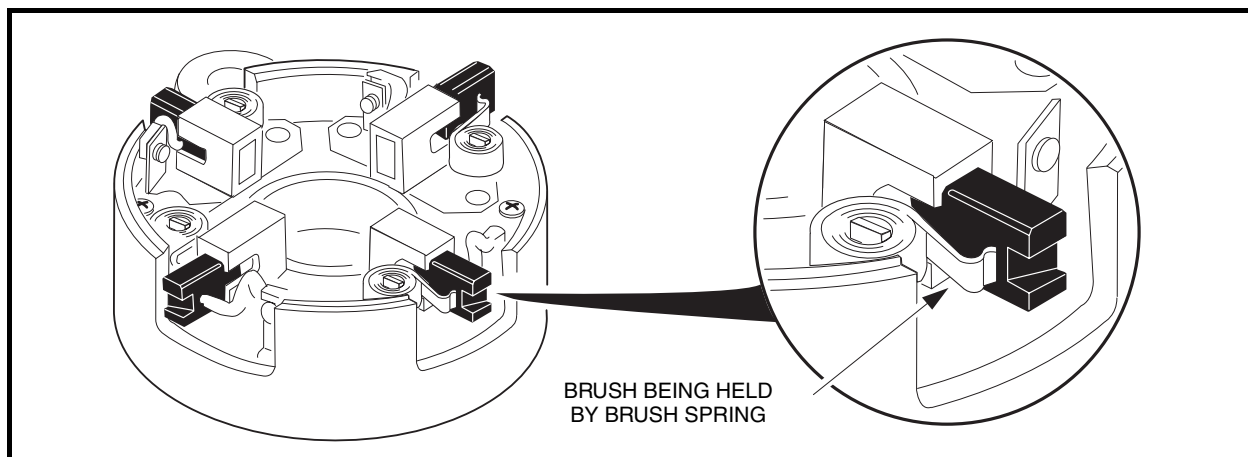

Figure 12-6 Pull Brushes Away From Center of the Commutator End Cover
NOTE: Brushes must be removed to avoid damage from commutator removal. Lift the brush springs out of the notches in the brushes and pull the brushes back from the center of the commutator end cover. The springs will help prevent them from sliding back towards the center (Figure 12-6, Page 12-4).
2. Install the commutator. Lift the brush springs out of the notches in the brushes and pull the brushes back from the center of the commutator end cover to avoid interference. The springs will rest on the sides of the brushes and help prevent them from sliding to the center (**Figure 12-6, Page 12-4**).
NOTE: Brushes must be removed to avoid damaged from commutator removal. Lift the brush springs out of the notches in the brushes and pull the brushes back from the center of the commutator and cover. The springs will help prevent them from sliding back towards the center (**Figure 12-6, Page 12-4**).
8. Install the commutator. Lift the brush springs out of the notches in the brushes and pull the brushes back from the center of the commutator end cover to avoid interference. The springs will rest on the sides of the brushes and help prevent them from sliding to the center of the cover (**Figure 12-6, Page 12-4**).